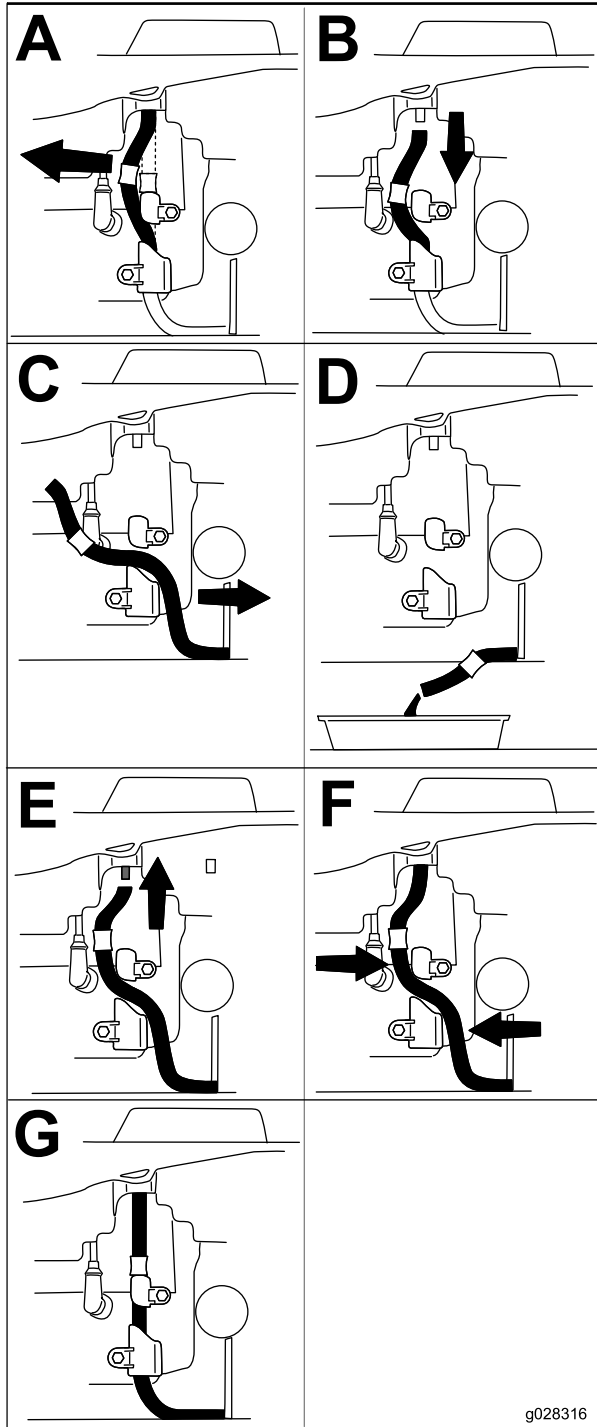

Figure 33
4. Drain the engine oil from the engine (Figure 33).